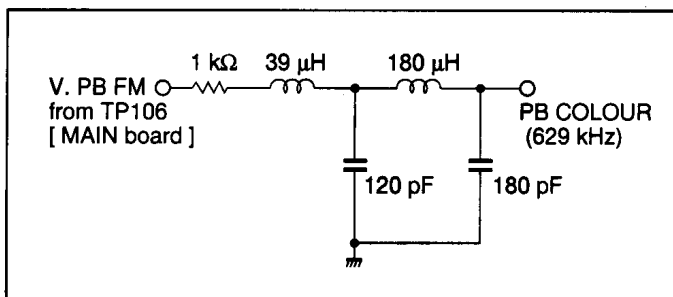
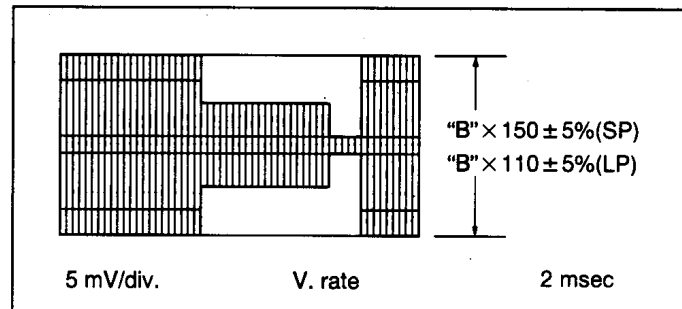

Fig. 3-3-4 LPF
Fig. 3-3-5 REC colour level
- (1) Connect an oscilloscope to PB COLOUR of a LPF (refer to Fig. 3-3-4) and TP111 (negative slope) on the MAIN board.
- (2) Playback the SP colour bar signal of the (SVHS) alignment tape.
- (3) Adjust by pressing the CH "▲" or "▼" buttons of the Front panel for maximum level of the color waveform and make a note of the higher colour level "B".
- (4) Press the STOP/EJECT button and eject the (SVHS) alignment tape.
- (5) Set the EVR mode by pressing the "K" button of the presetting unit.
- (6) Set "A : 2" by pressing 2 button of the remote controller.
- (7) Before recording, adjust the CH "▲" or "▼" buttons of the remote controller so that the higher level channel becomes  $150 \pm 5%$  : SP ( $110 \pm 5%$  : LP) of the note "B" level during playback as shown in Fig. 3-3-5.
- (8) Record a colour bar signal in the SP (LP) mode, and playback the recorded colour bar signal.
- (9) Set the normal VCR mode by pressing the "K" button again so adjustment data is memorized.